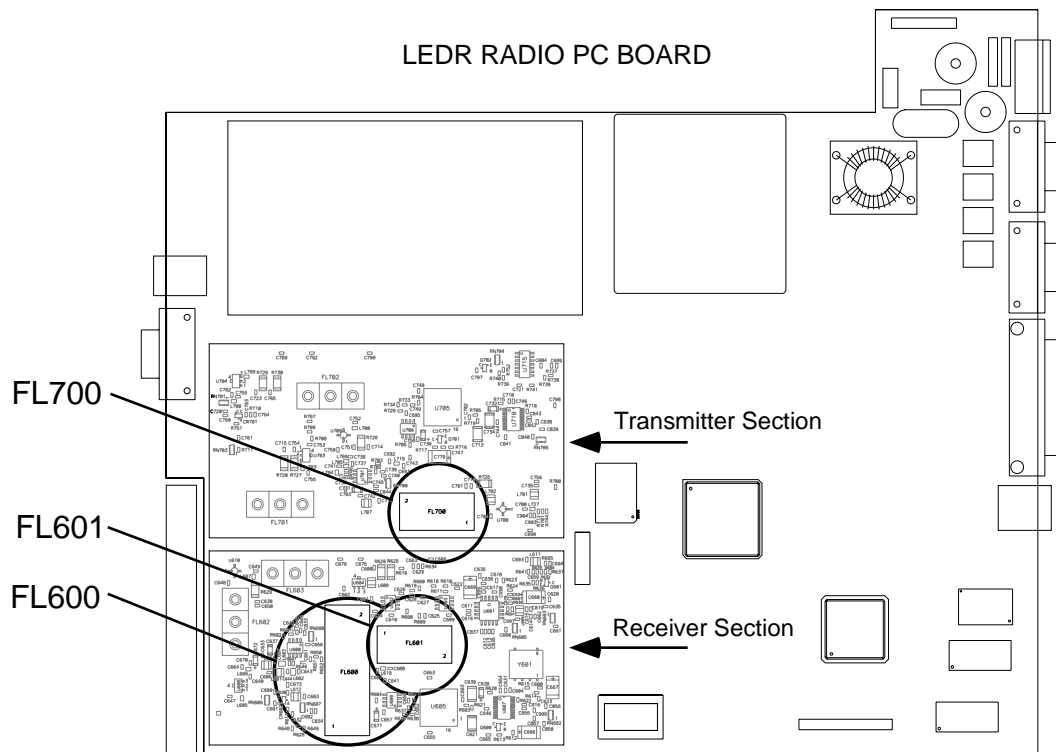

Figure 30. Location of Bandwidth Filters FL600, FL601 and FL700
3. Remove the Transmitter and Receiver section's RF shields (Figure 30). It will be necessary to unplug the ribbon cables that cross over the shields—record their locations as you remove them.